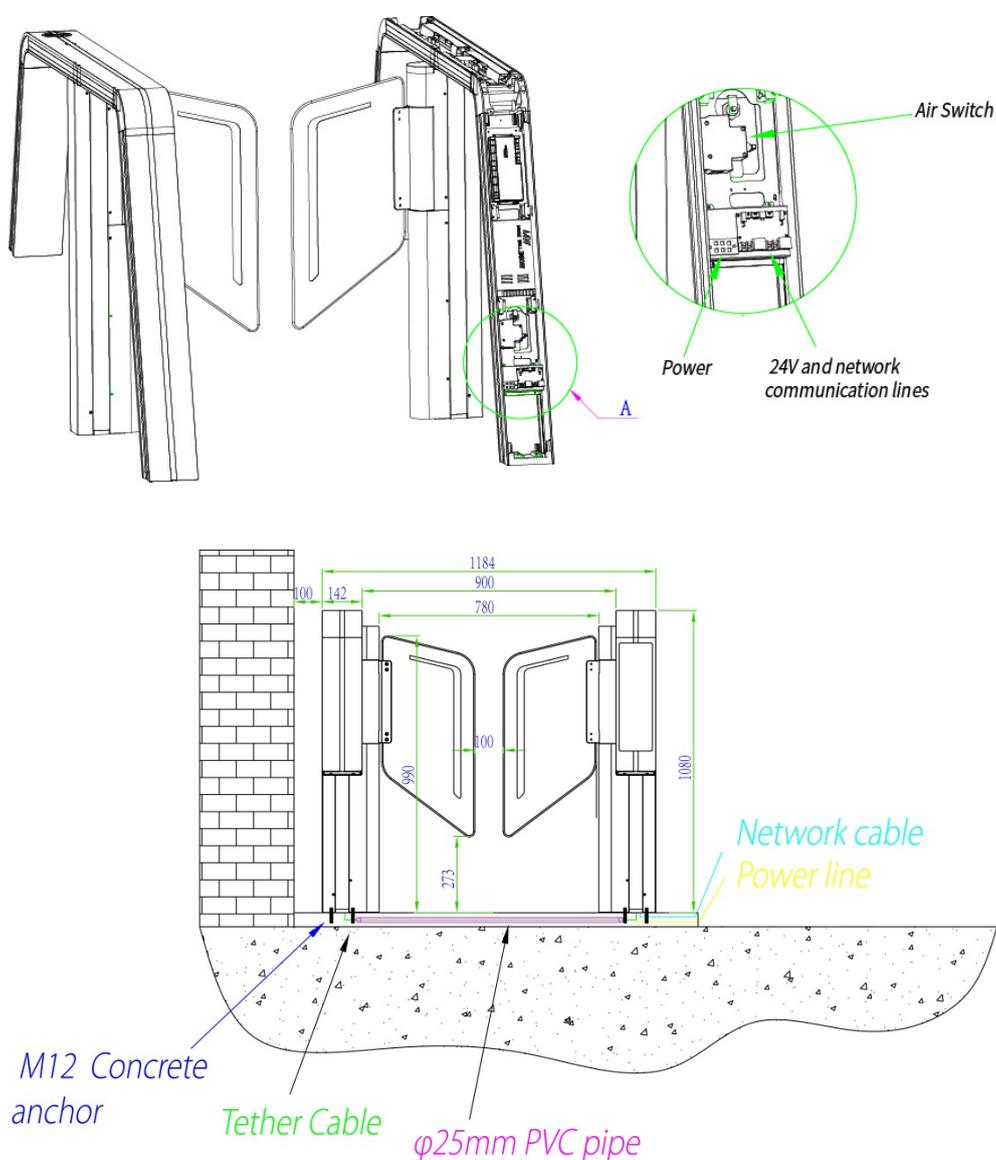

Figure 2-2
The SBTL9000 Series installation holes and cabling positions is shown in Figure 2-2:
- Mark the screw hole at the centre of the stand, and the edge of the chassis base on the ground according to the sizes as shown on the Figure 2-2.